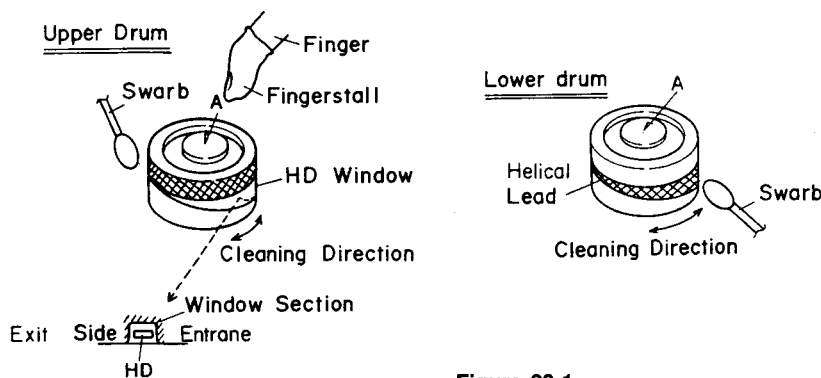

Figure 20-1
3. Clean the herical lead of lower drum with swarb. (See Fig. 20-1.)